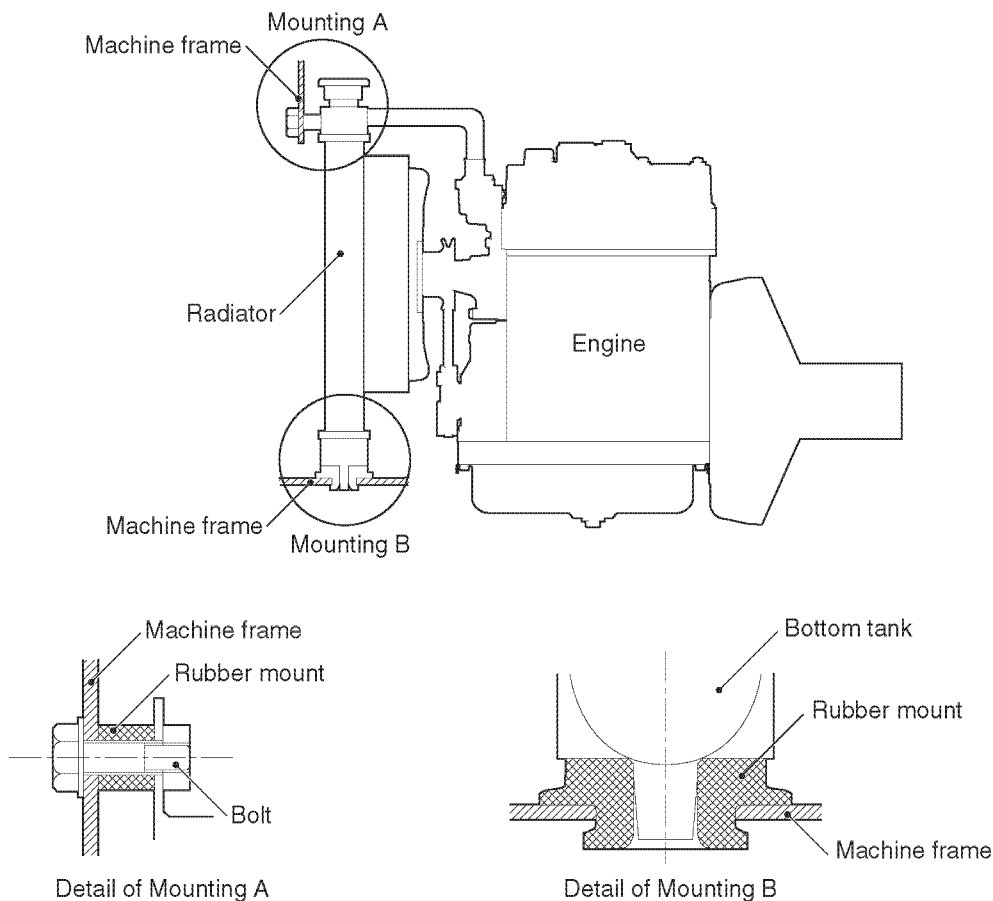

Figure 9-7
- Upper rubber mount: Be sure that the upper rubber mount does not resonate with vibration in the up-down direction (bouncing) and vibration in the rolling direction (shown by the arrow in **(Figure 9-7)**).